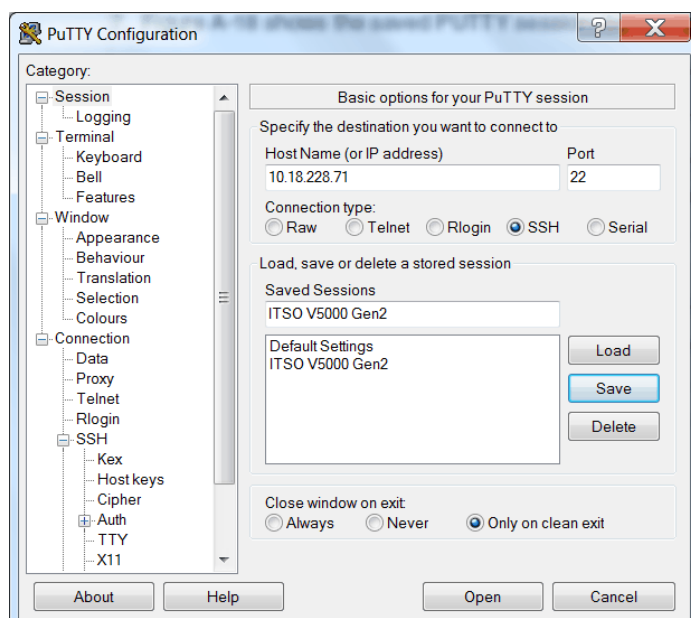

Figure A-18 Saved PUTTY session
7. Figure A-18 shows the saved PUTTY session. Select the new session and click **Open**.